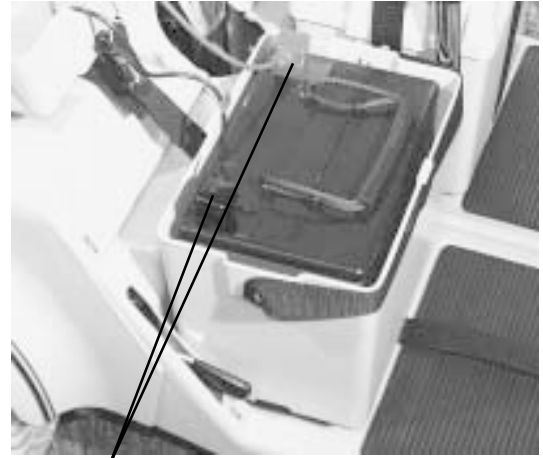

FIGURE 9. BATTERY CABLES
4. Disconnect the battery cables from the battery terminals. See figure 9.